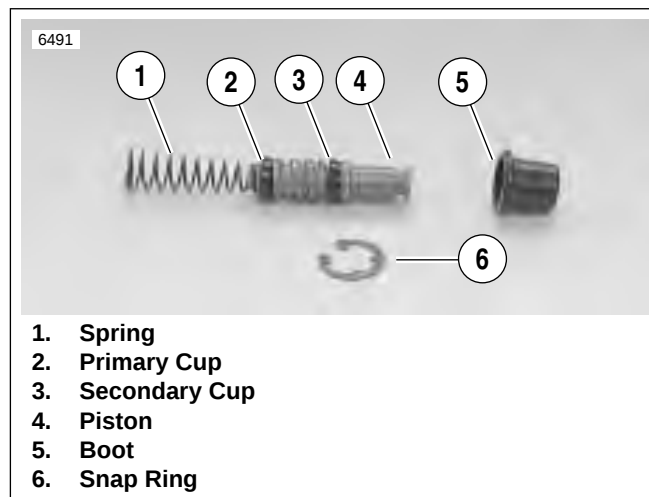

Figure 2-22. Piston Assembly
4. Depress piston assembly and remove internal snap ring (3). Discard snap ring.
5. See Figure 2-22. Remove piston assembly (1-4) from front master cylinder.